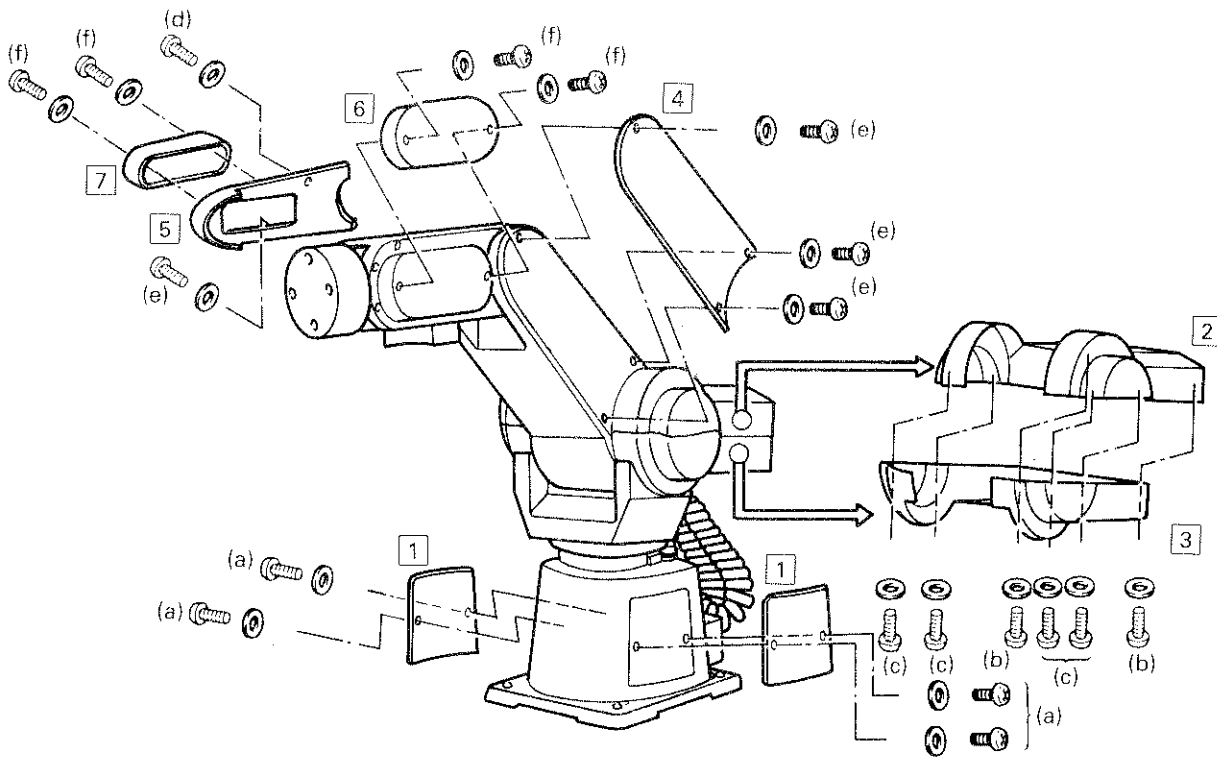

Fig. 4.3.2 Removal of the Covers
- (1) Whenever the robot is to be serviced, remove the covers as shown in Fig. 4.3.2.
- (2) Table 4.3.1 lists the names of the covers. Table 4.3.2 gives a complete listing of attaching screws.
- (3) Some covers may be hard to remove depending on the position of the robot. In such cases, move the robot as appropriate so that the covers can be removed easily.
- (4) To replace the covers, reverse the order of removal.